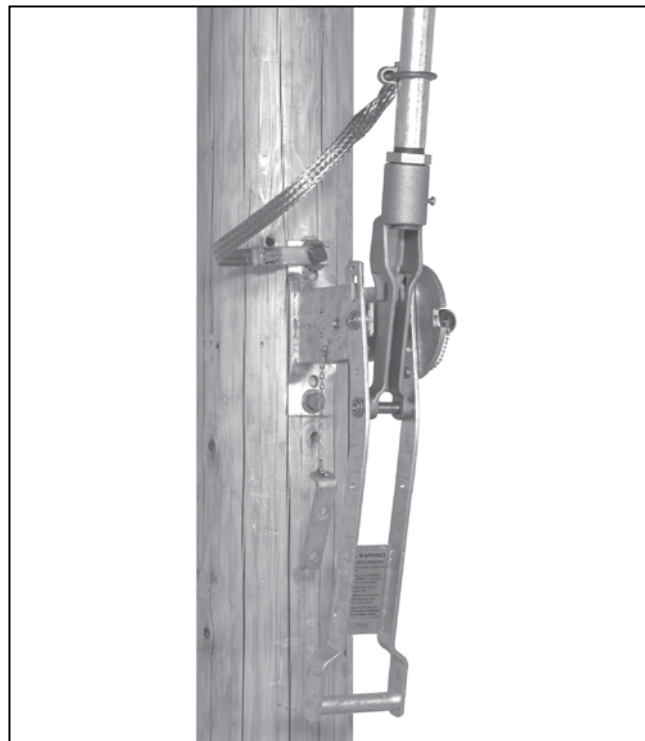

Figure 25. Attaching the grounding strap.
STEP 23. Fasten the free end of the grounding strap to the lowest vertical operating-pipe section a few inches above the operating handle assembly with the U-bolt connector provided for this purpose. See Figure 25. Then, connect the lower end of the strap to a suitable earth ground, using the grounding connector provide at that end of the strap.●